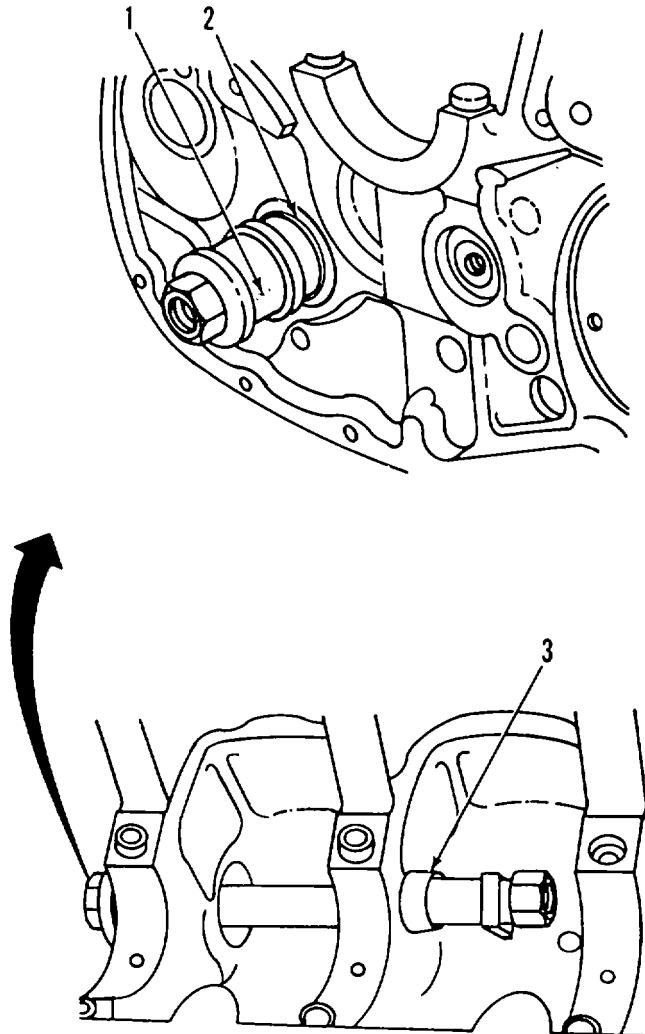

Figure 4-20. Bearing Bushing
- (3) Measure camshaft bearing bushing at points 1 and 2 in the planes A and B. If measurement does not meet specified tolerance, install new bearing bushing. Correct tolerance is 0.015-0.027 in. (0.4-0.7 mm).
- (4) Subtract recorded camshaft journal measurement from bearing bushing measurement. If measurement does not meet specified tolerance, replace camshaft.
c. DISASSEMBLY. (Figure 4-20)
- (1) Install removal/replacing tool (1) through front of bearing bushing (2).
- (2) Insert end support of tool behind next camshaft bore (3).
- (3) Pull bearing bushing (2) out in direction of flywheel.
- (4) Remove bearing bushing (2) and tool (1).